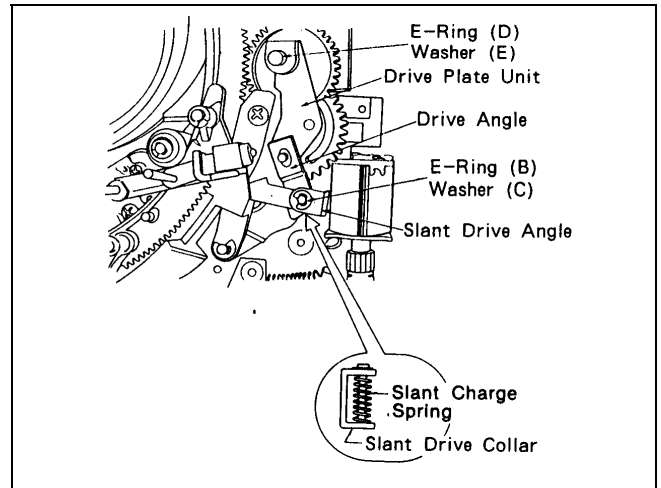

Figure 7-19-2 Cam Gear Removal (2)
3. Remove E-Ring (B) and Washer (C), then remove Slant Drive Angle, Drive Angle and Slant Charge Spring as shown in figure 7-19-2.
4. Remove E-Ring (D), Washer (E) and Drive Plate Unit as shown in figure 7-19-2.